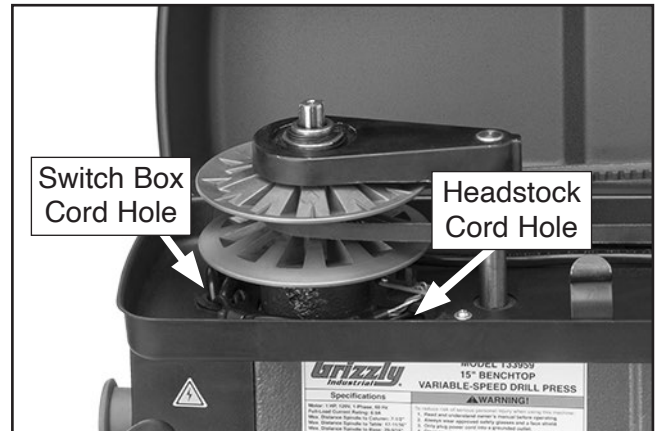

Figure 69. LED and laser module cords fed into headstock and switch box (T33959 shown).
3. Open belt cover and identify which cord is connected to faulty laser by lightly tugging cords fed into headstock (see **Figure 69**).
4. Follow cord to where it is fed into switch box (see **Figure 69**).